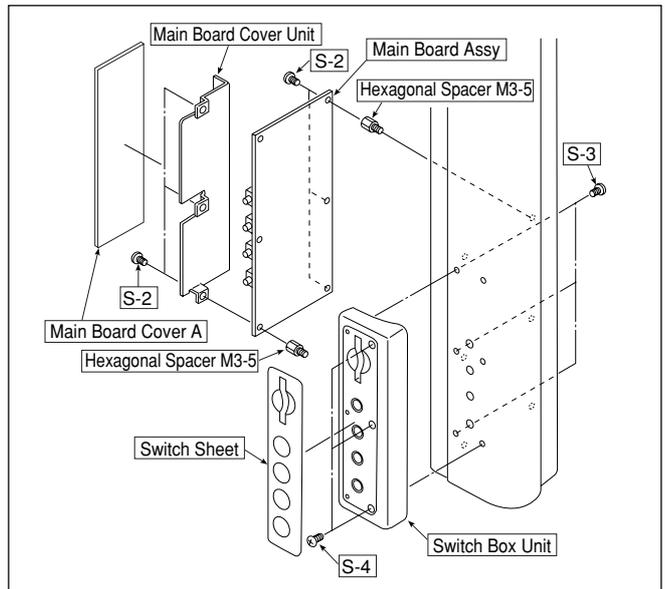

Fig. 5
### 5) Remove the Main Board Assy and Switch Box Unit. (See Figure 5.)
1. Remove Main Board Cover A shown in Figure 5.
5. Remove the "S-3" and "S-4" screws shown in Figure 5 and then remove the Switch Box Unit. (Tightening torque: 4.5kgfcm)